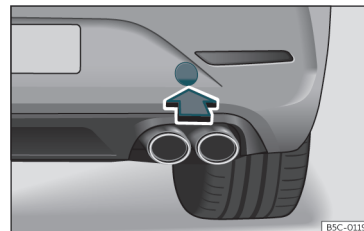

Fig. 45 On the right side of the rear bumper: remove the cover.
The housing of the screw towing eye is on the right side of the rear bumper behind a lid »» **Fig. 45**.
- Press the bottom side of the lid»» **Fig. 45** to unclip it.